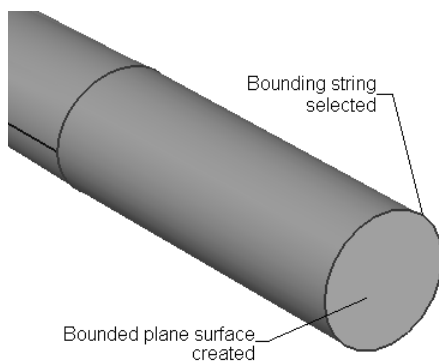

Figure 11-99 The bounding string selected and the resulting bounded plane surface created
2. Select the bounding string for creating the bounded plane surface, as shown in Figure 11-99. The resulting bounded plane surface is displayed, as shown in Figure 11-99.